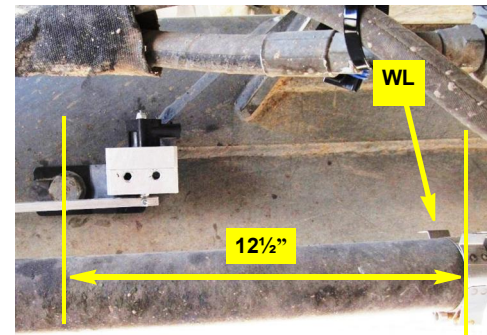

Figure 2c: WAS link rod bracket installed
- c. Mount rod link clamp **WL** on the tie rod. Set the outer edge of the clamp  $12\frac{1}{2}$ " from the center of the mounting bolt used and have the clamp flanges uppermost and parallel to the ground (Figure 2c).